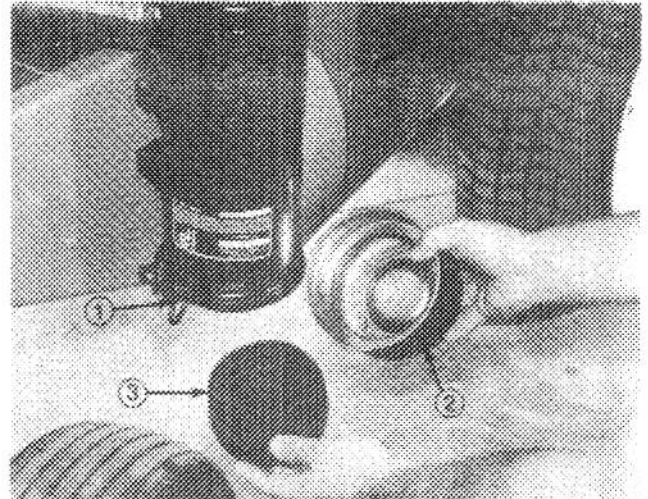

Figure 44
1. Loosen thumb screw until dust cup and baffle can be removed (Fig. 44). Separate dust cup and baffle (Fig. 44).